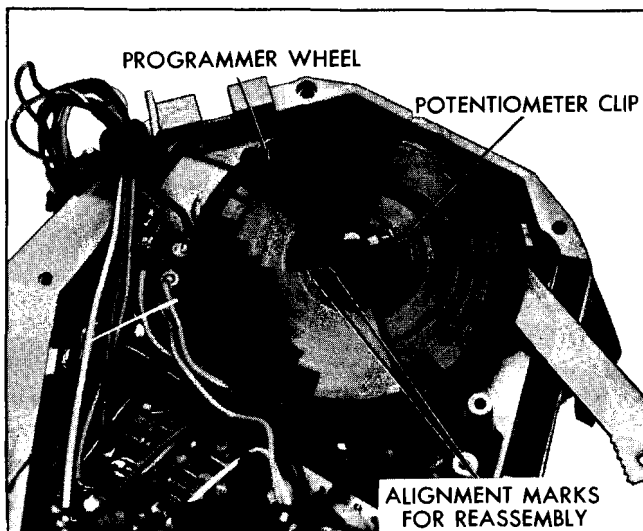

Fig. 1B-63 Marking Programmer Wheel
1. Scribe a thin line (using a screwdriver, knife or other sharp instrument) on the potentiometer clip in line with edge of wheel rib so that clip can be replaced in same position on wheel, Fig. 1B-63. There is a white paint mark in this area.